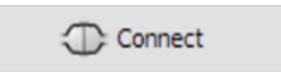
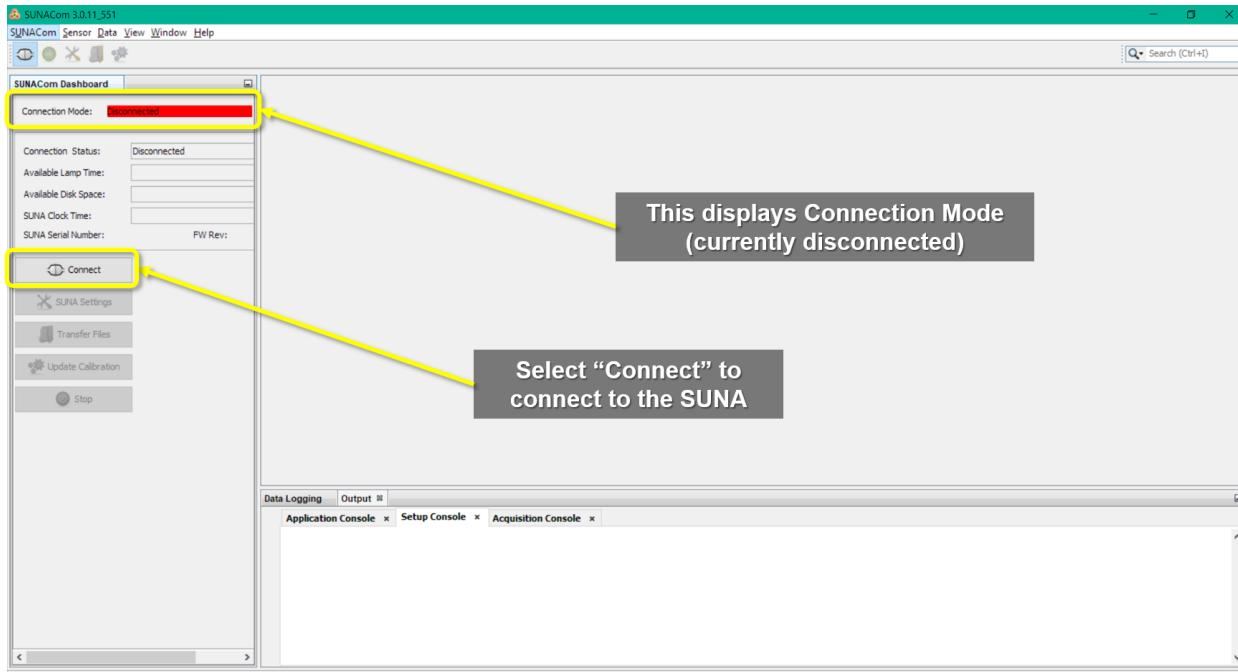

Figure 105. "Connect" Icon
Figure 106. Select the "Connect" Icon (Connection Mode: Disconnected)
5. Select the “**Connect**” icon on the left hand side of the window (see Figure 105 and Figure 106)